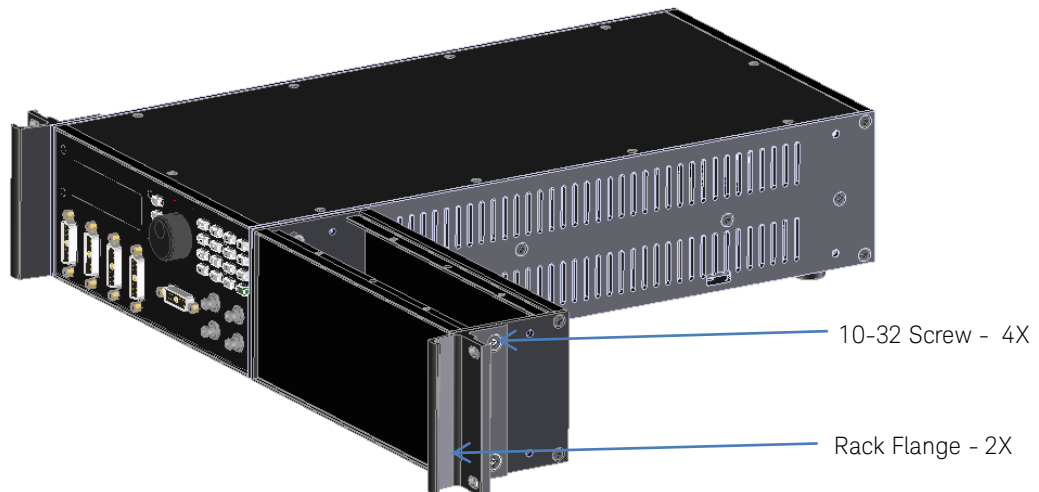

Figure 4: Attach rack flanges
6. Attach a rack flange to the rack mount kit and to the instrument as shown in Figure 4.